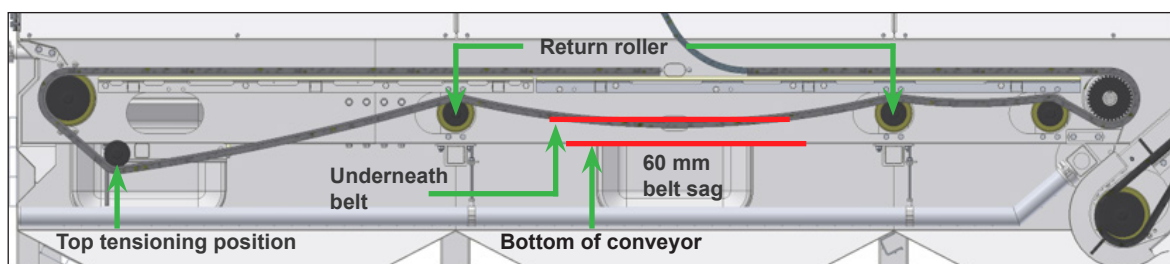

Figure 12 - Checking floor conveyor belt sag
- b. Adjust the tension of the belt using the webbing straps to adjust the sag of the belt to approximately 60 mm in between the return rollers and the bottom of the conveyor (Figure 12).